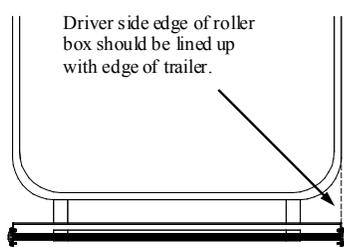
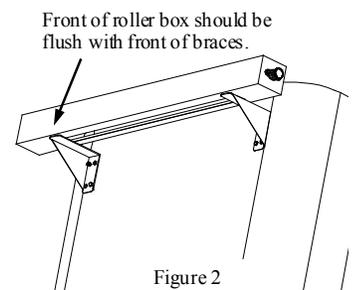
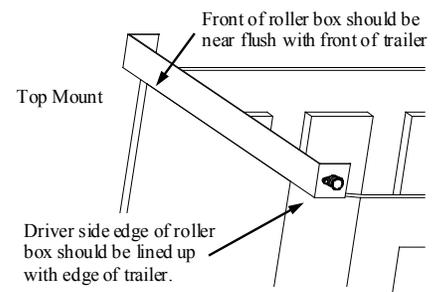

Figure 2a
Figure 2
Figure 2b
**Mounting the head roller box to the braces, see figure 2.** Set the head roller box assembly on top of braces. Move the roller box so that the driver side edge is lined up with the driver side edge of the trailer, see figure 2a, next move the box so that the front of the box is nearly flush with the front edge of the braces. When desired position is achieved, clamp box in place, then using a 1/2" drill bit, drill holes through both, the braces, and the bottom of the roller box (there should be three holes for each brace, two in front and one in rear). When the desired roller box placement is achieved, using 1/2" x 1-1/2" hex bolts, 1/2" flat washers, and 1/2" lock nut, fasten the head roller box firmly to the braces. If front mount is not possible mount the roller box on top of the bulkhead, see figure 2b.
To mount the roller box on top, align the driver side of the box with the driver side of the trailer as seen in figure 2a, and place it as far forward as possible (flush with front of trailer). Then using a 1/2" drill bit drill holes through the bottom of the roller box and matching holes through the top rail, two holes on each side of trailer. Then, using 1/2" x 1-1/2" hex bolts, 1/2" flat washers, and 1/2" nuts, fasten the roller box to top of bulkhead.